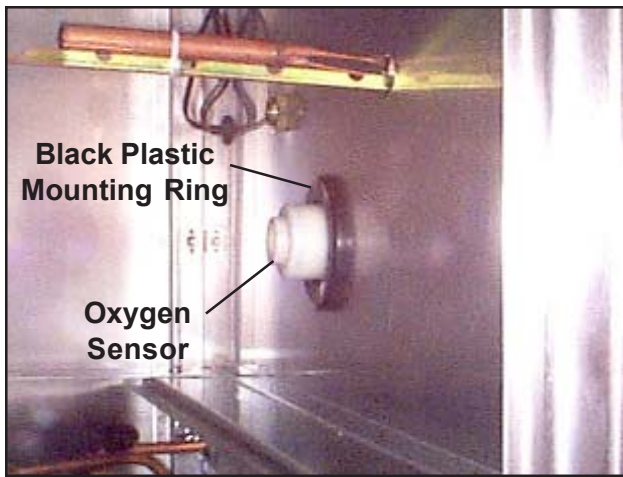

Figure 37. New Style Oxygen Sensor Mount
4. Inside the filter/fans compartment, notice the installation of the oxygen sensor (Figure 37).